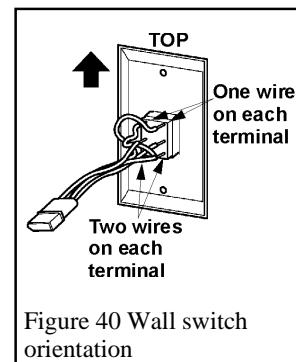

Figure 40 Wall switch orientation
7. When fitting the wall plate to the wall box, attach the way up shown in figure 40 so that pressing the upper half of the switch increases the flames.
11. If using the wall switch, attach the wall plate the way up shown in figure 40 so that pressing the upper half of the switch increases the flames.